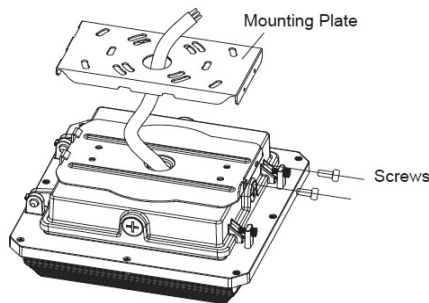

Figure 3-1
1. Loosen screws with screwdriver, and detach the mounting plate. Figure 3-1